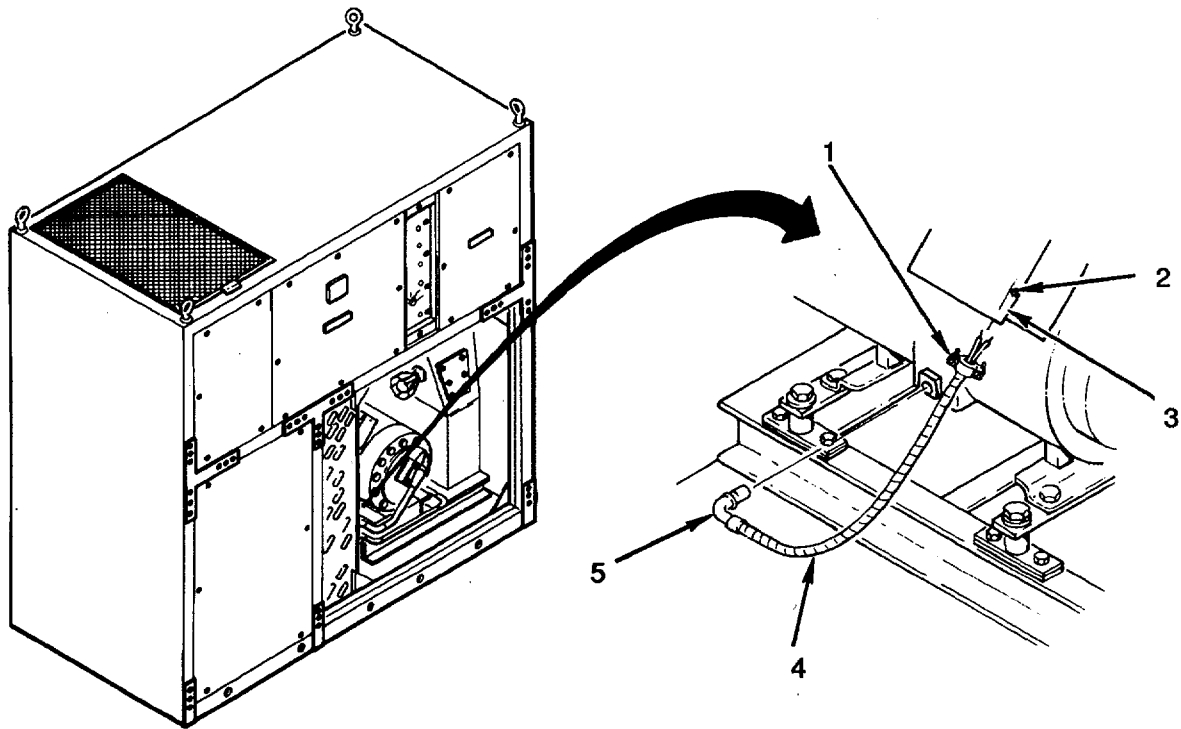

Figure 4-81. Compressor Crankcase Heater
1. Remove two screws (2) and J-box cover (3) (see Figure 4-81).